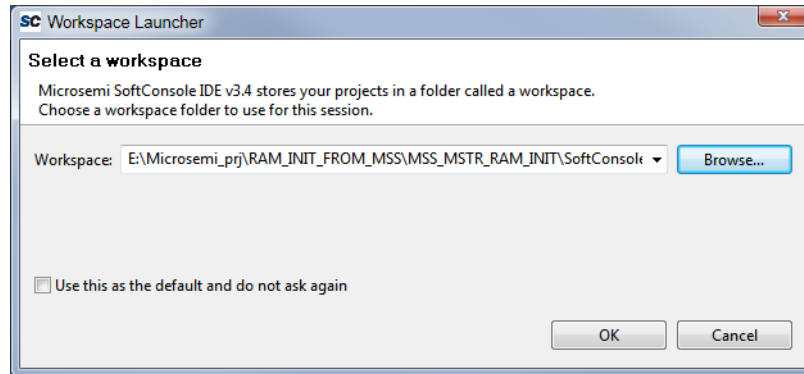

Figure 10 • Specifying the SoftConsole Workspace Location
5. Launch the **SoftConsole v4.0** and browse the SoftConsole folder project where the Libero project is created as shown in Figure 10 on page 15.